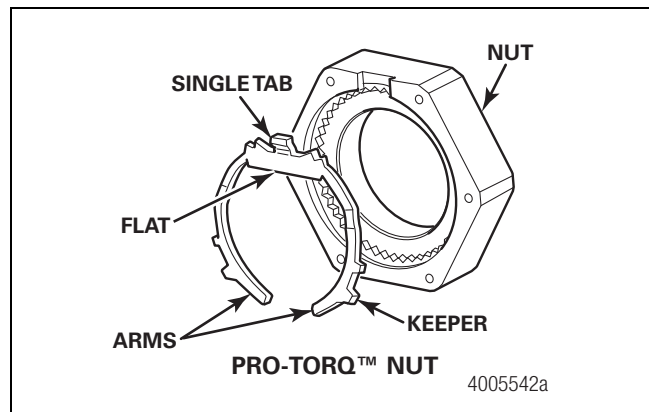

Figure 4.10
- Remove the keeper from the PRO-TORQ™ nut. Use a screwdriver to pry out the keeper arm from the groove on each side of the nut until the keeper is released. Meritor recommends replacing the keeper with a new one each time the PRO-TORQ™ nut is removed to maintain the integrity of the locking mechanism. Use a 3.5-inch (89 mm) socket wrench to remove the PRO-TORQ™ nut. Figure 4.10.